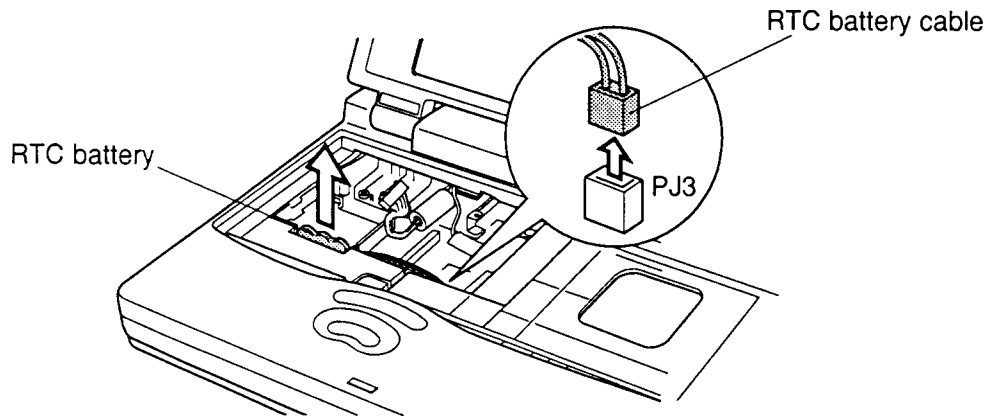

*Figure 4-19 Removing the top cover screws*
To remove the RTC battery and top cover with display assembly, follow the steps below and refer to Figures 4-19 to 4-21.
To install the RTC battery and top cover with display assembly, follow the steps below and refer to Figures 4-19 to 4-22.
7. Turn the computer upside down and secure **three M2.5x8 silver screws** and **four M2.5x6 screws** (Figure 4-19).